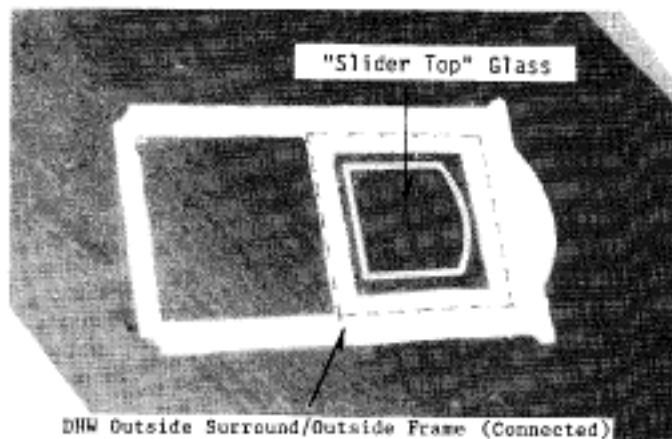

Figure 15
3. Lay an outside surround/frame (the outside frame remains connected to the outside surround) on a table with the good side down. Run a thin bead of glue around the outside frame window opening. Spread glue evenly. With clean hands, place glass on the frame, make sure it is centered. With a pencil, press the glass down for full contact with the glue. Figure 15.